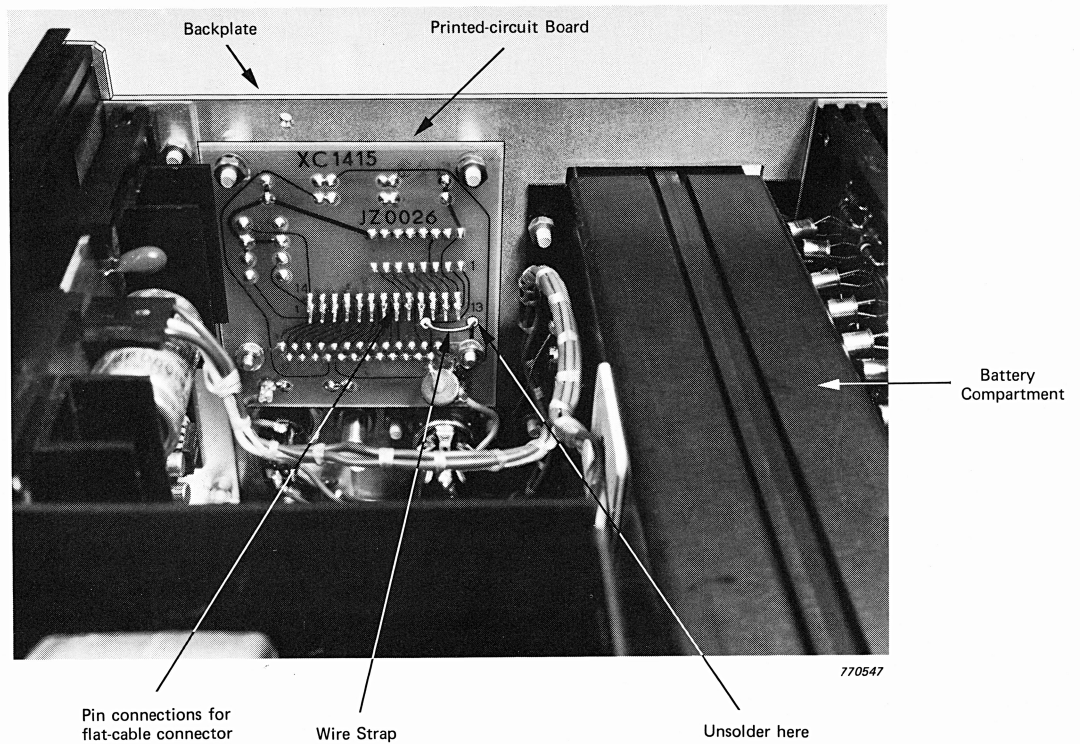

Fig.3.7. Position of wire grounding strap
2. Unplug the flat-cable connector on the printed-circuit board on the backplate (see Fig.3.7).
3. Unsolder the wire strap (see Fig.3.7), and move it away from the terminal.